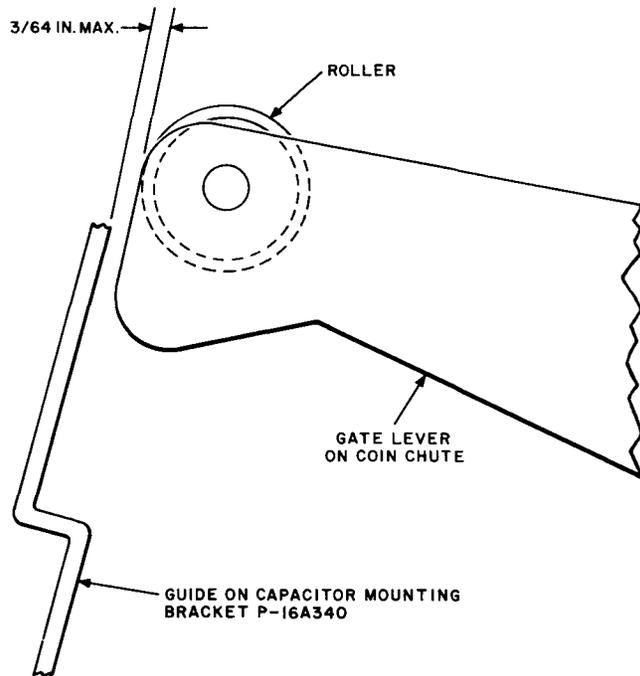

Fig. 3 — Clearance Between Guide and Gate Operating Arm
- (1) Disconnect attached leads.
- (2) Loosen filter, if present.
- (3) If gong signal assembly is mounted on swing type bracket:
- (4) Remove mounting screw.
- (5) Remove bayonet guides by pushing them toward coin chute and rotating one-fourth turn in either direction.
- (6) Lift coin chute from upper housing.
- End of gate operating arm guide on capacitor mounting bracket should clear gate lever (Fig. 3).